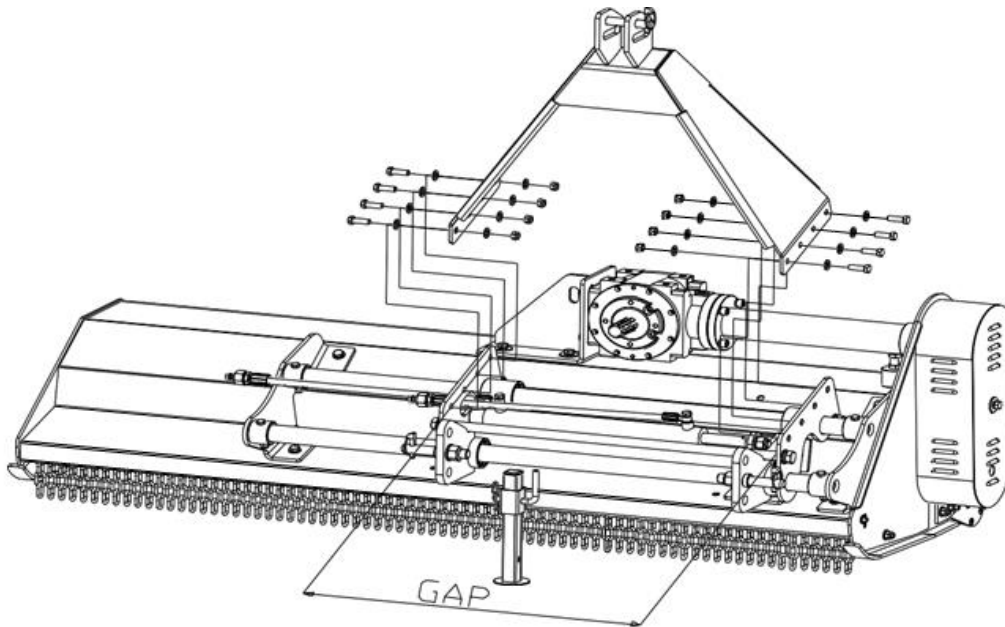

Figure 1-9: Installing Hitch Bracket Weldment and Fittings
*NOTE: If the gap shown in figure 1-9 does not meet the hitch bracket weldment installation requirements, remove the oil inlet pipe, and oil outlet pipe to release the pressure in the cylinder. That will make it easy to adjust the gap. Reinstall those oil pipes after hitch bracket weldment installation.*